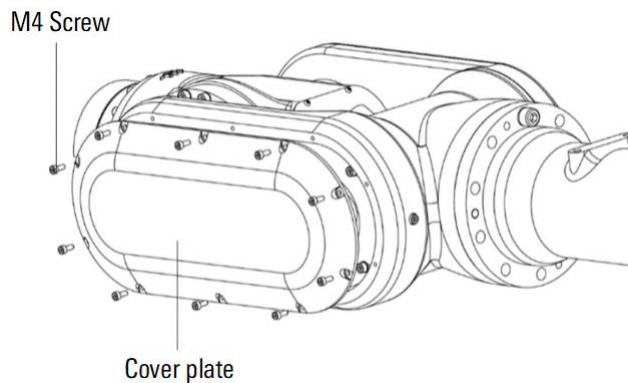

Figure 10-13 Remove the cover plate
- Step3. Remove the left manipulator cover plate and use an Allen wrench to remove 8 M4 screws, as shown in Figure 10-13.